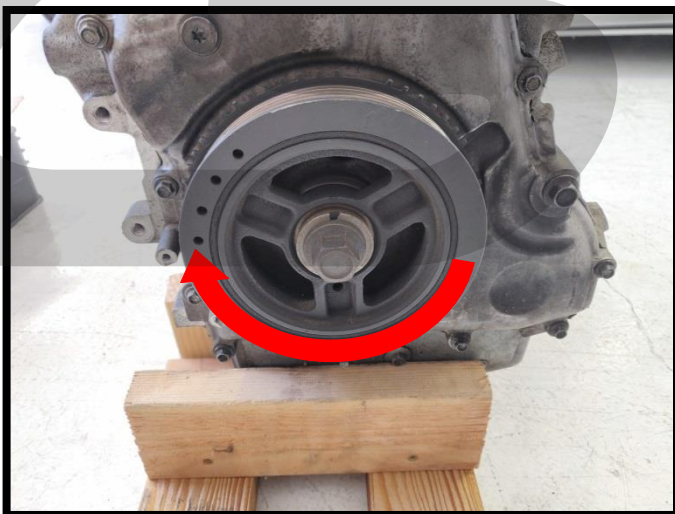

Figure 1c
- e) Using the 21mm socket and ratchet slowly rotate the crankshaft clockwise until it contacts the timing pin and stops. See Figure 1c.